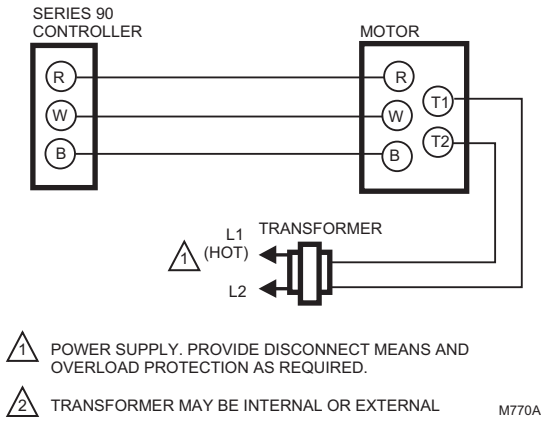
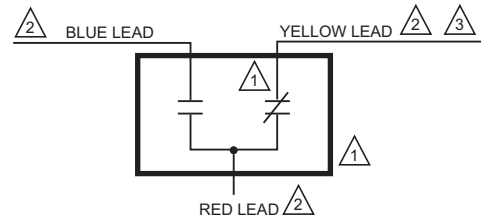

Fig. 5. Typical Series 90 Wiring.
Fig. 7. Auxiliary Switch Schematic.
5. Refer to Fig. 5 for typical wiring, and Fig. 7 for internal auxiliary switch connections.
closed (fully counterclockwise) position, the auxiliary switch breaks contacts R-B. Refer to Fig. 7 (or the auxiliary switch Instruction Sheet) for auxiliary switch wiring.